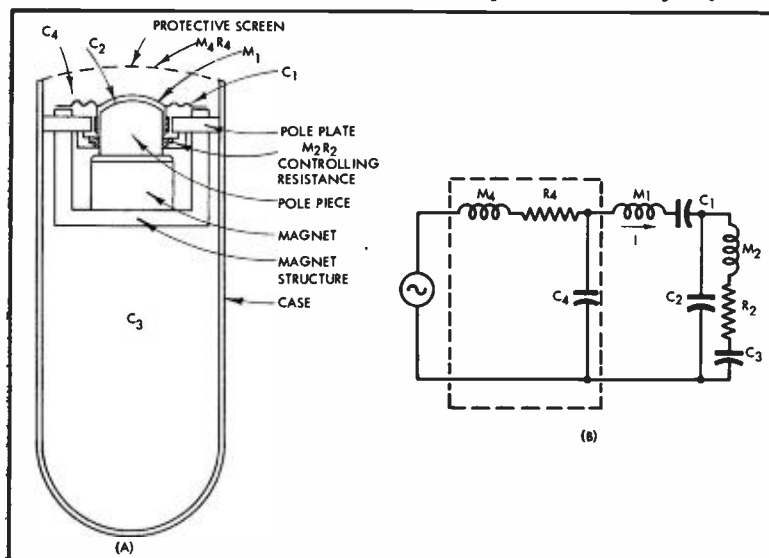

Fig. 4. (A), Schematic of moving-coil microphone showing additional acoustic compliances, masses, and resistances, and (B), its equivalent circuit.
Figure 4 shows, at (A) a more complete schematic cross-section of a moving-coil microphone. Magnet, magnet structure, pole plate and pole piece form the magnetic circuit, which provides a radial magnetic field in the annular gap between pole piece and pole plate. The diaphragm voice-coil assembly is cemented to the pole plate so that the voice-coil can move freely in the annular gap perpendicular to the radial field. On the other side of the gap, the controlling acoustical resistance R_2 , consisting usually of a narrow annular slot or a felt or silk ring, communicates the small volume C_2 with the volume inside the magnet structure. The whole system is enclosed by a case which seals the back side of the diaphragm from the sound field and allows the sound pressure to act only on the front side of the diaphragm, through a protective screen. The volume of the case C_3 must communicate freely with the volume inside the magnet structure.
In the equivalent electrical circuit, (B) of Fig. 4, if the components enclosed by the dashed lines are disregarded for the moment, M_1 is the mass of diaphragm plus voice-coil, C_1 the compliance of the edge zone, C_2 is the compliance of the small volume between diaphragm and pole piece, which couples the acoustical element $R_2 M_2$ to the diaphragm. C_3 is the compliance of the volume enclosed by the case. In the frequency range where R_2 is large compared with the reactive components $M_1 C_1$ and $M_2 C_2$, and where the reactive component of C_2 is large compared with R_2 , the current through $M_1 C_1$, which represents the velocity of the diaphragm will be resistance controlled and therefore independent of the frequency of the driving sound pressure. It follows that the output voltage of the microphone will be constant in this frequency range.